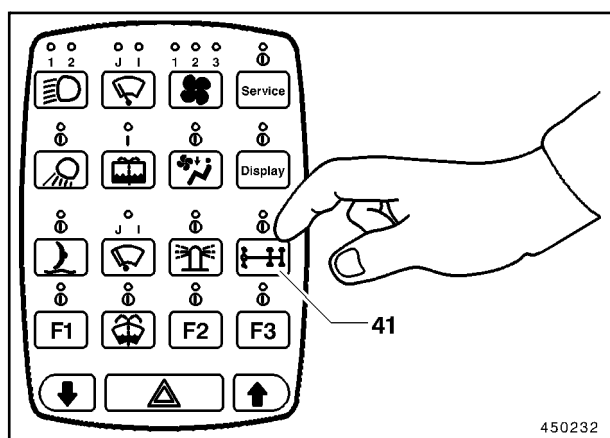

Fig. 6
The front-wheel drive is switched on and off with the key (41, Fig. 6).